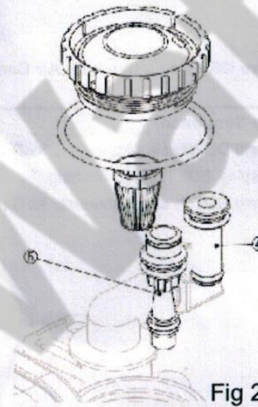

Fig 2
You now need to move onto the injector housing and remove the plug item 4 from the DN position and replace with the supplied injector (See Fig 2).